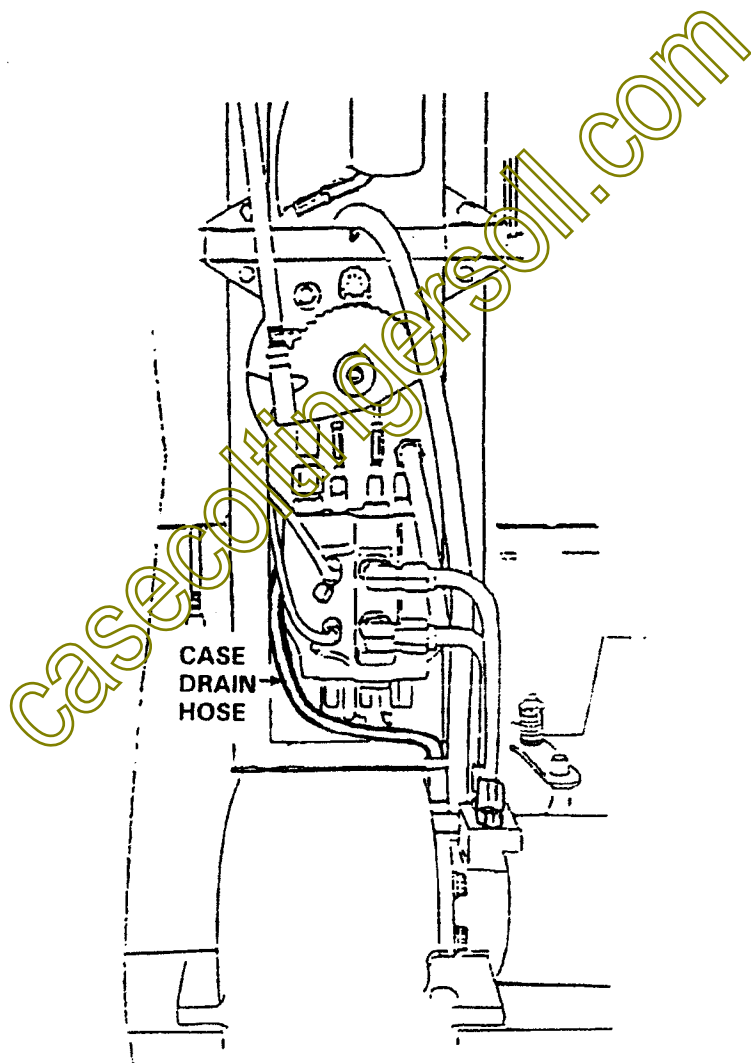

FIGURE 2
1. Route the drain hose as shown in Figure 2 from travel control valve to PTO valve with flared-fitting end of hose at travel valve. Route hose over travel motor and tie wrap to PTO hoses or tubes to avoid contact with transaxle shift lever.